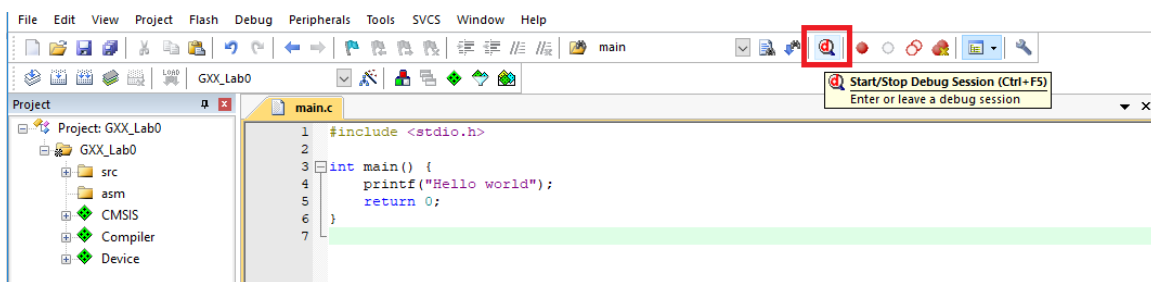

Figure 16: Entering the debug mode.
4. We will now enter the *Debug* mode via the ‘debug’ button or the keyboard shortcut Ctrl+F5 as shown in Figure 16.